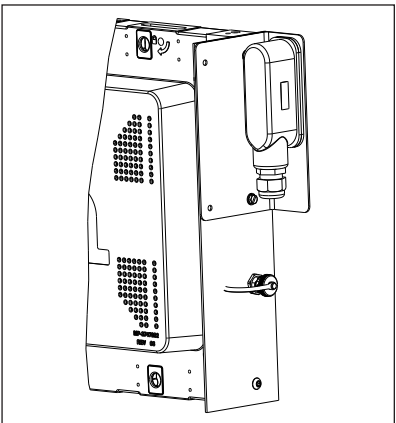

Figure 11: Connect Light Sensor to Panel Mount Jack
5. Connect the light sensor harness (W-2532) to the panel mount M12 jack installed in **Step 4**. Refer to **Figure 11**.